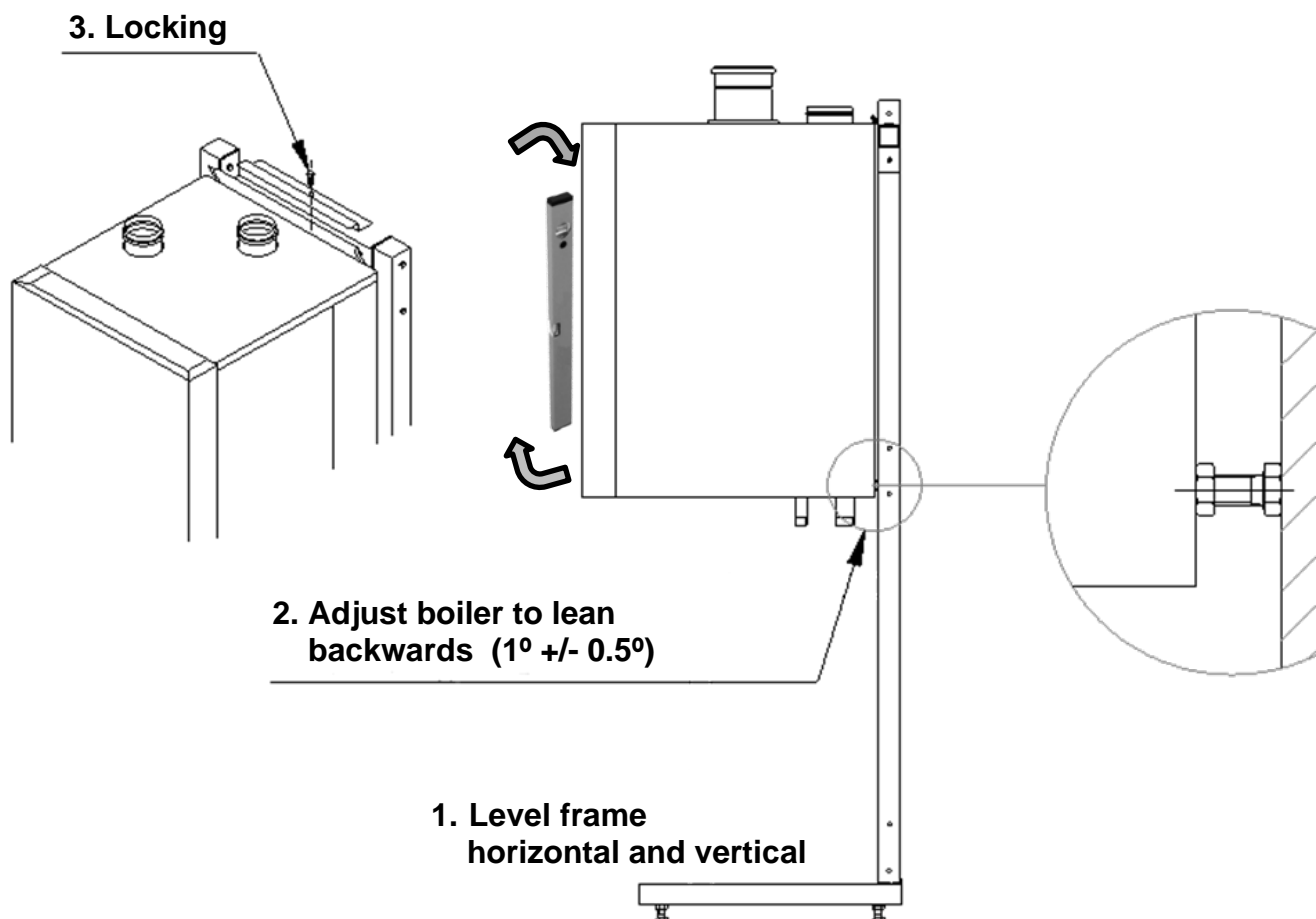

Figure 10.1 Mounting details
1. Before mounting the boiler on the frame, ensure that the frame is level both horizontally and vertically. If necessary adjust with the adjusting bolts on the lower side of the frame (see Figure 10.1).
The boilers must hang backwards slightly ($1^\circ \pm 0.5^\circ$). If necessary, adjust with the adjusting bolts on the lower rear side of the back panel (see Figure 10.1). When the adjusting bolts are not sufficient, the space behind the bolts needs to be filled to achieve the correct position.